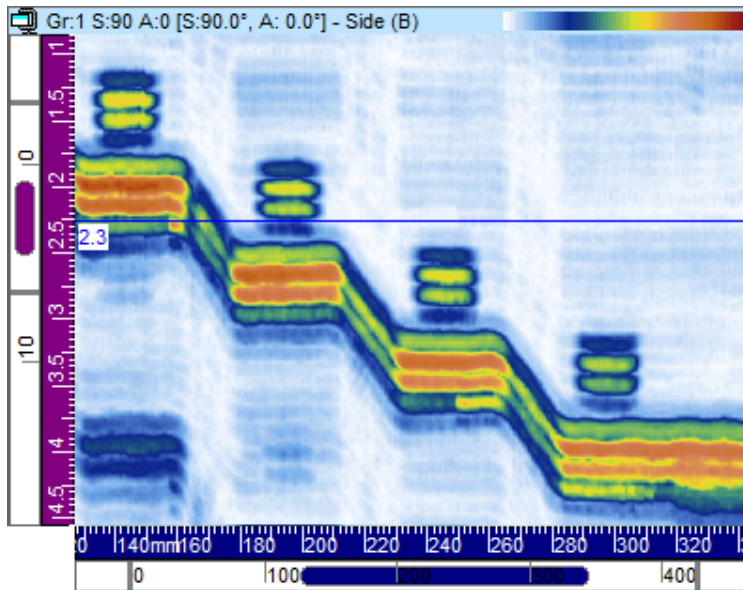

Figure 3-23 Example of Side (B) view
The **Side (B)** view (see Figure 3-23 on page 104) is a two-dimensional graphical representation of the recorded data. One of the axes is the scan axis; the other is the uncorrected ultrasonic (USound) path. The position of the displayed data is related to